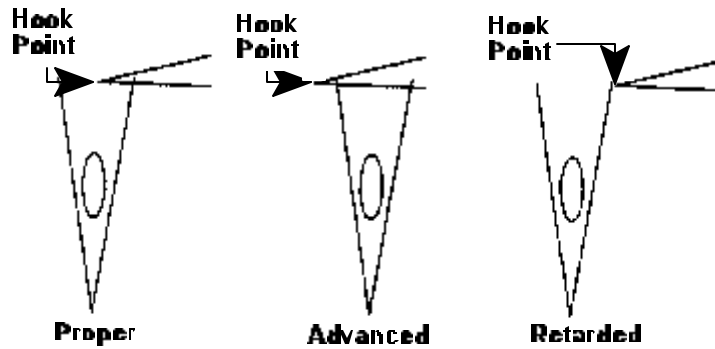

Figure 8
38. Adjust so tip of hook point is behind and in **middle of needle**. See *Figure 8*.